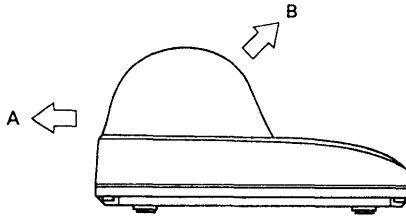

Fig. 2-3. Removing the printer paper cover
- ① Slide the printer paper cover in the direction of arrow A, as shown in Fig. 2-3, and remove it in the direction of arrow B.